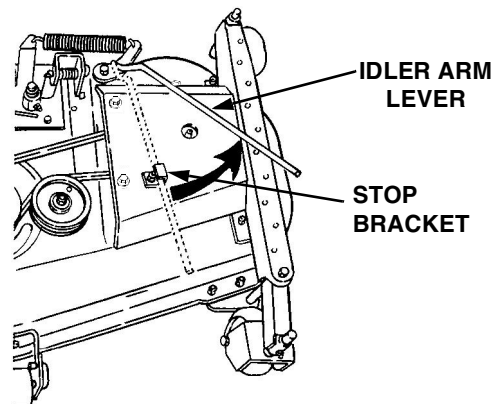

Figure 2-9
11. Disengage the deck idler arm lever from its stop bracket and release the spring tension by rotating the lever out and rearward (See Figure 2-9).